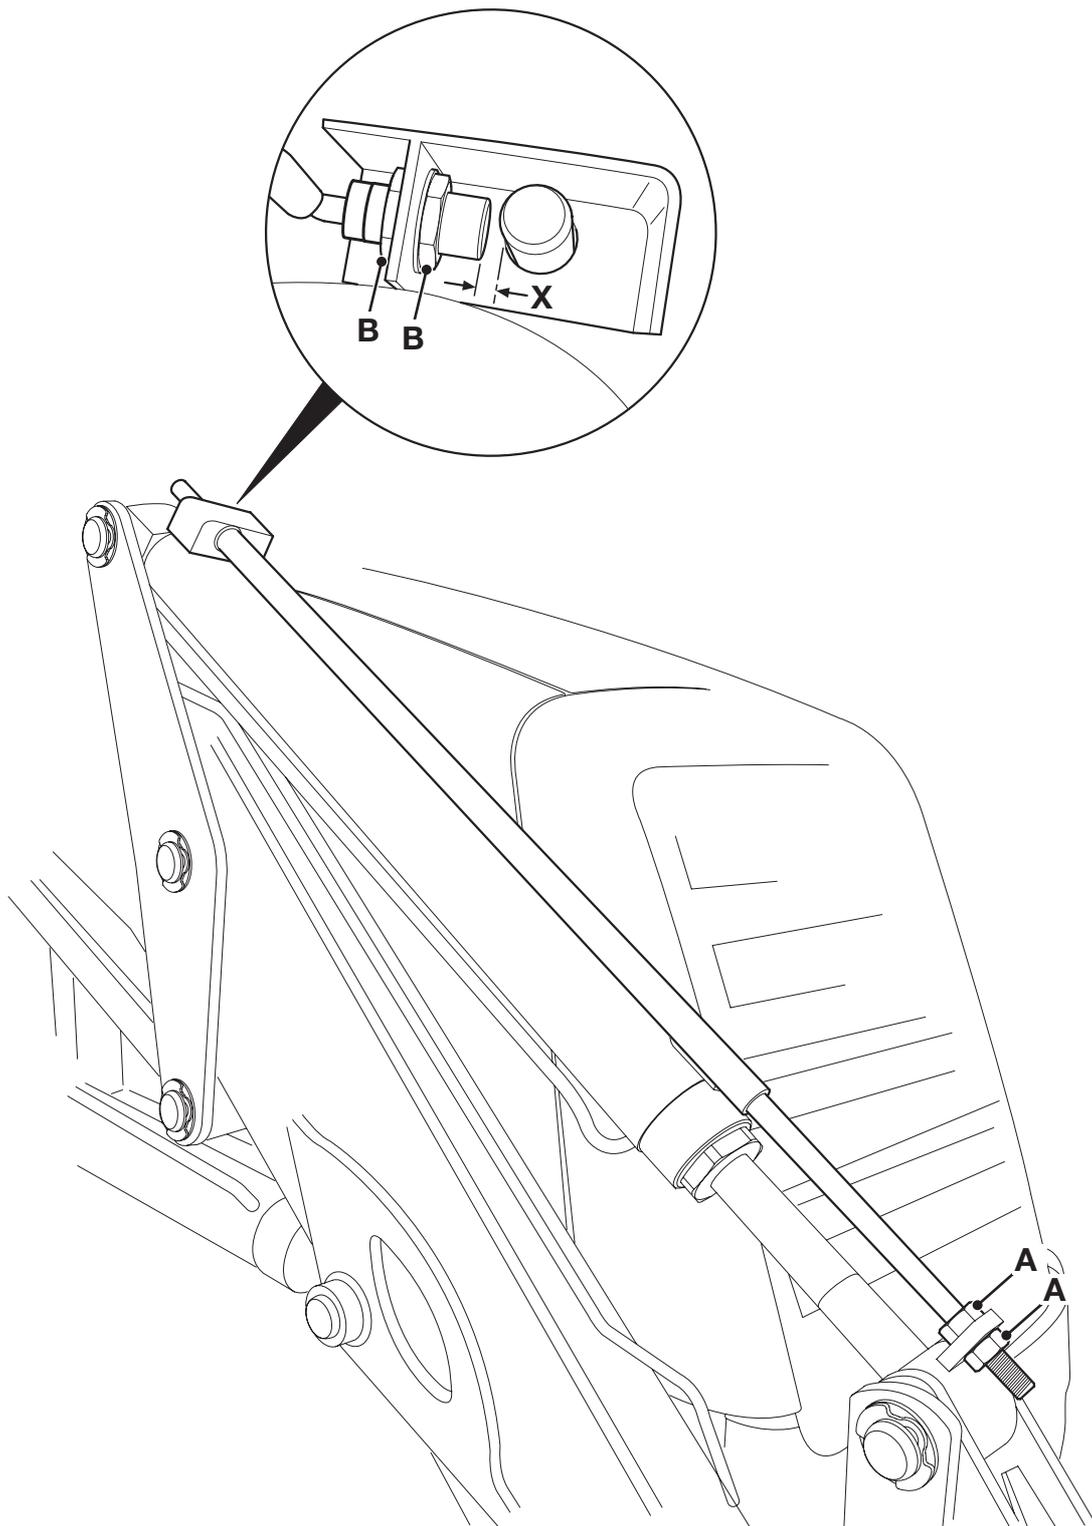

Fig 21. Proximity Switch Setting
- 4 → Fig 21. (□ D-26). Adjust the rod with nuts **A** so that the LED on the proximity switch illuminates and extinguishes at this position.